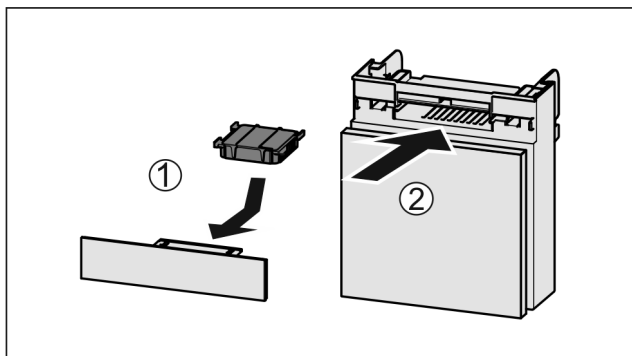

Fig. 175
- Insert the carbon filter as shown in the diagram Fig. 175 (1).
- Push the compartment in Fig. 175 (2).